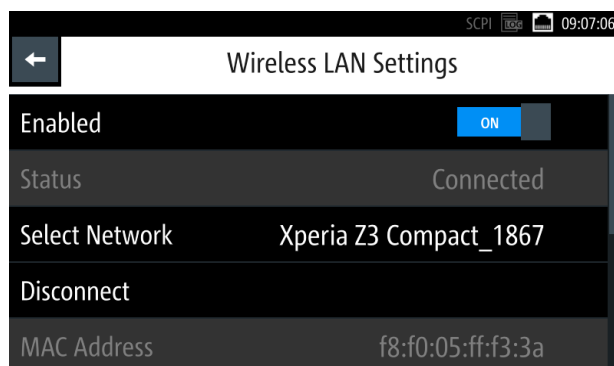

Figure 6-33: WLAN connected
3. Select the "Select Network" to connect the required WiFi network. If connection is successful, the "Status" shows "Connected". See Figure 6-33. When the connection is alive, the WLAN icon turns white on the device status bar. See device status bar.